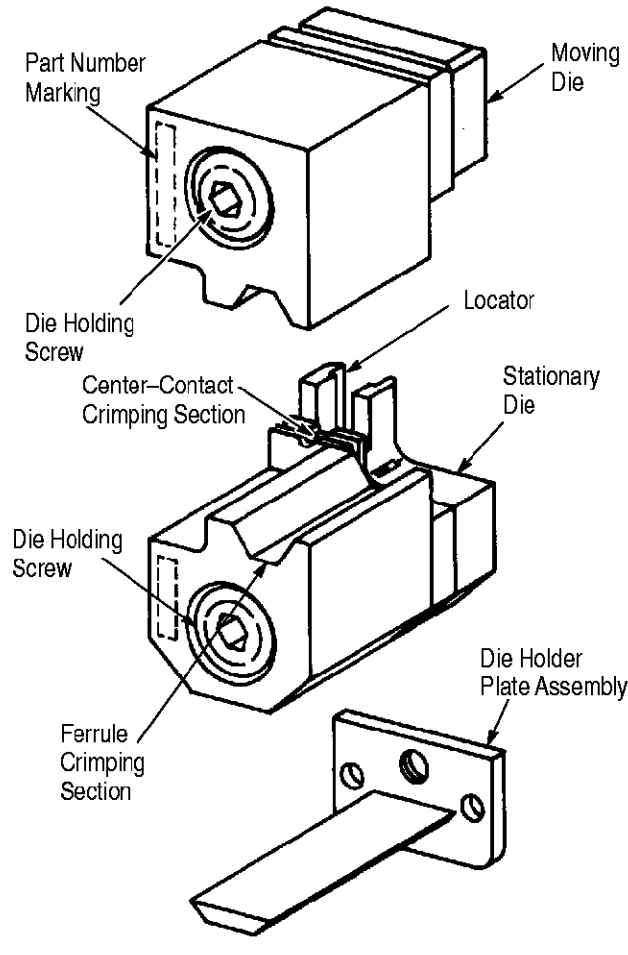

Figure 1
2. DESCRIPTION (Figure 1)
The die assembly, designed to terminate connectors on RG-58 cable, consists of a stationary die with locator, a moving die, and a die holder plate assembly which is used with the die assembly in place of the die holder packaged with the pneumatic tool. See Figure 1.